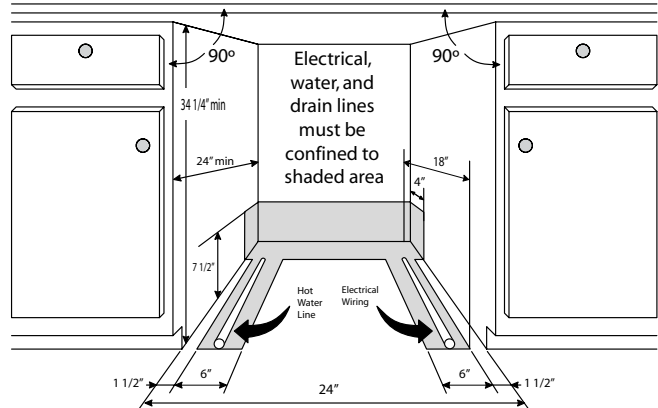

FIG 2
- 2 All connections must be made in the shaded area of **Figure 2**, page 3
- 3 Cut the access hole in the shaded area shown in **Figure 2**, page 3.
- 6 Before cutting the drain hose access, check both sides of the selected area to avoid interference. Cut a 2" diameter hole in shaded area shown in Figure 2, page 3.